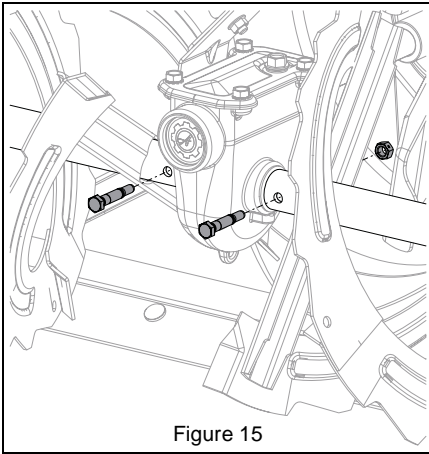

Figure 15
1. Remove shear bolt nuts and bolts. See Figure 15.
See Figure 15.